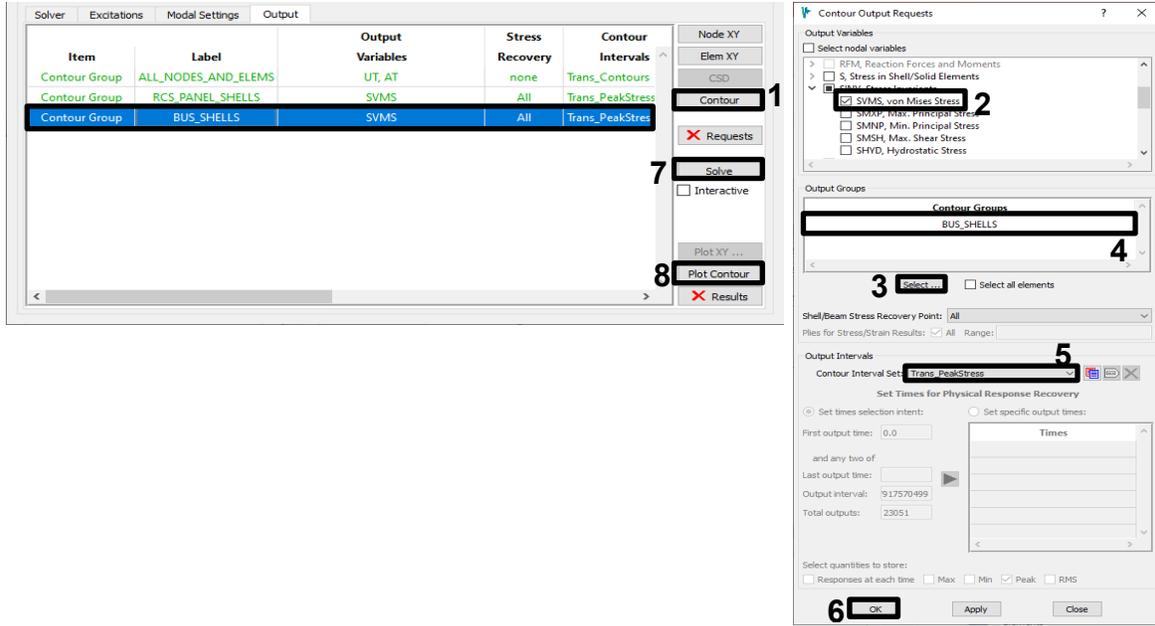
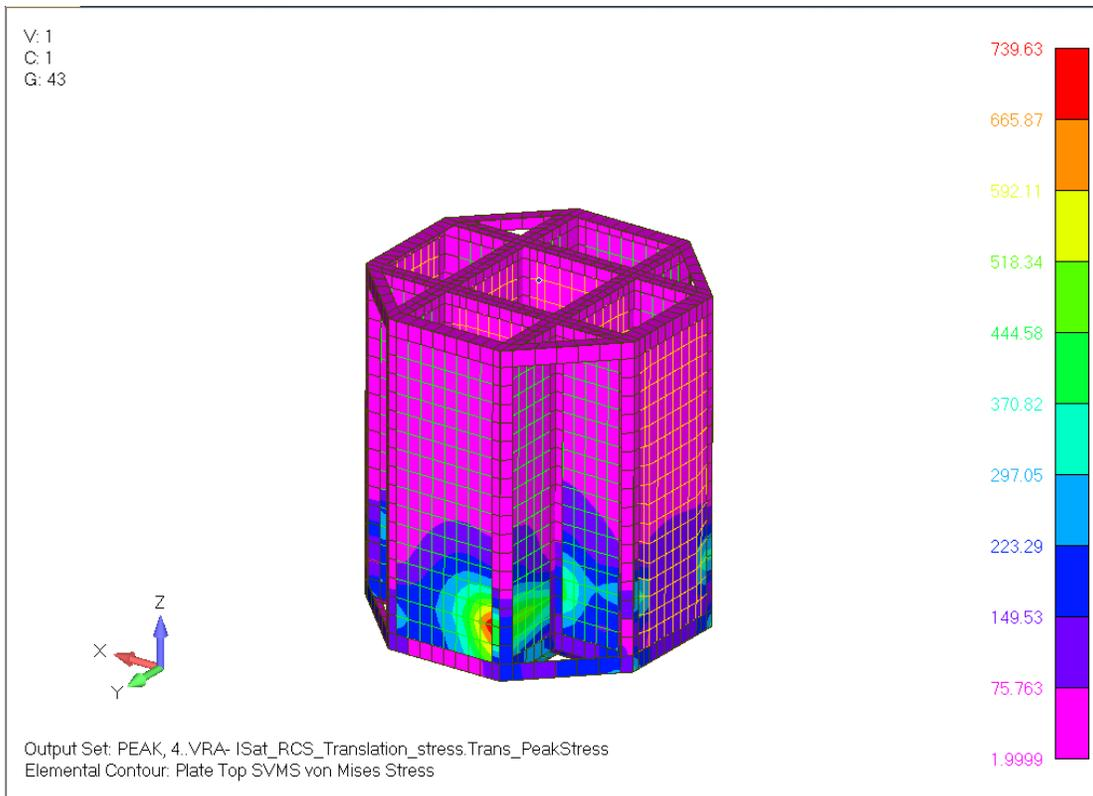

Figure 4-104. Select the BUS\_SHELLS contour request and plot its results.
Figure 4-105. Von Mises results with only the BUS\_SHELLS group displayed.
11. There appears to be a significant stress concentration where the instrumentation package support attaches to the bus. Create a contour request for the peak stresses in the BUS\_SHELLS group with the same settings used for the RCS panels. Solve this new request, then select it in the table and click **Plot Contour** again (Figure 4-104). This time, display only the BUS\_SHELLS group in the contour plot (Figure 4-105). There is indeed a stress concentration, and the stress is nearly seven times higher than in the RCS panels.